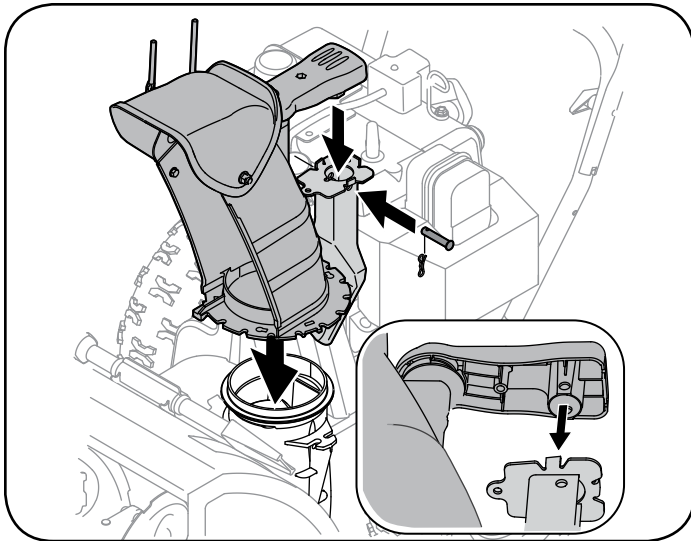

Figure 5
5. Place chute assembly onto chute base (forward-facing) and secure chute control assembly to chute support bracket with clevis pin and cotter pin removed earlier. See Figure 5.